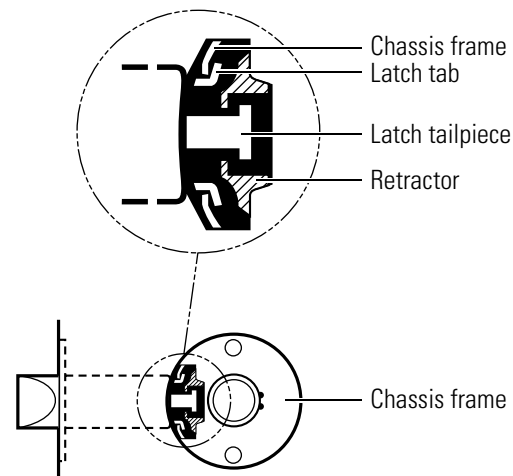

Figure 3.11 Engaging the retractor in the latch
2. Align the chassis with the latch. Make sure that the latch tabs engage the chassis frame and the latch tailpiece engages the retractor, as shown in Figure 3.11. The outside rose and liner should also be flush with the door.